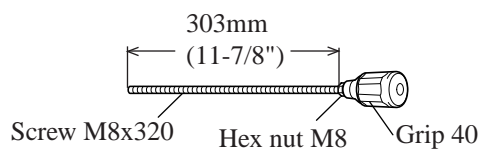

Fig. 21
1. Adjust the length of screw M8x320 by turning hex nut M8 so that its length comes to 303mm (11-7/8") as illustrated in Fig. 21.